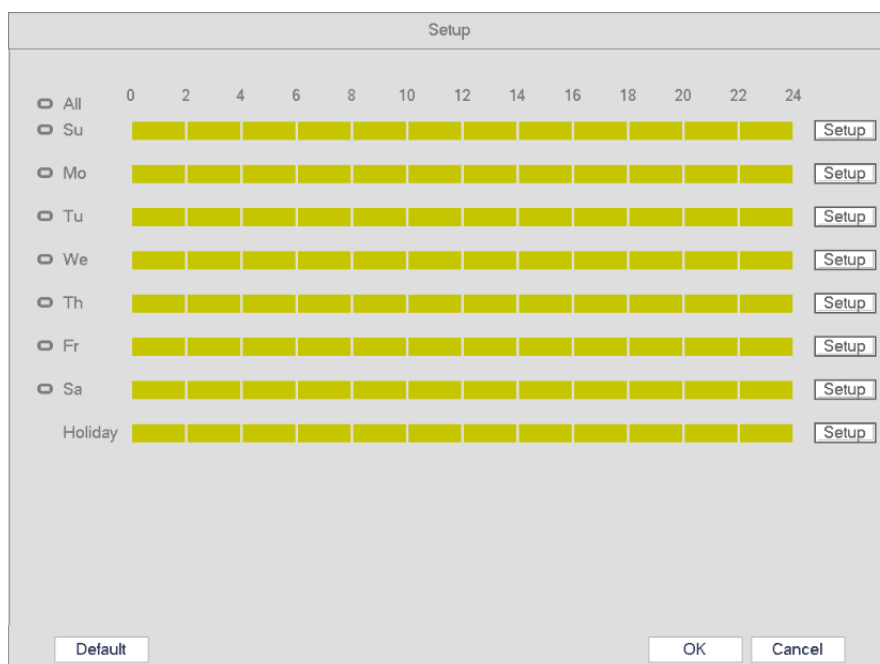

Figure 4-5
4. Period: Select the Period Setup button. The interface is shown below (Figure 4-5). Follow the same procedure as the general schedule setup. Note that a maximum of 6 separate periods can be specified for one day.